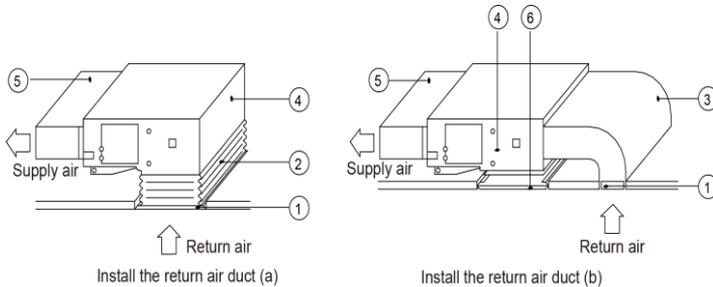

Fig. 4.36
- (3) If the bottom return air is desired, just change the place of the rectangular flange and the return air cover plate.
- (4) Connect one end of the return air duct to the return air outlet of the unit by rivets and the other to the return air louver. For the sake of the convenience to freely adjust the height, a cutting of canvas duct will be helpful, which can be reinforced and folded by 8# iron wire.
- (5) More noise is likely to be produced in the bottom return air mode than the backward return air mode, so it is suggested to install a silencer and a static pressure box to minimize the noise.
- (6) The installation method can be chosen with considering the conditions of the building and maintenance etc, as shown in Fig. 4.36.